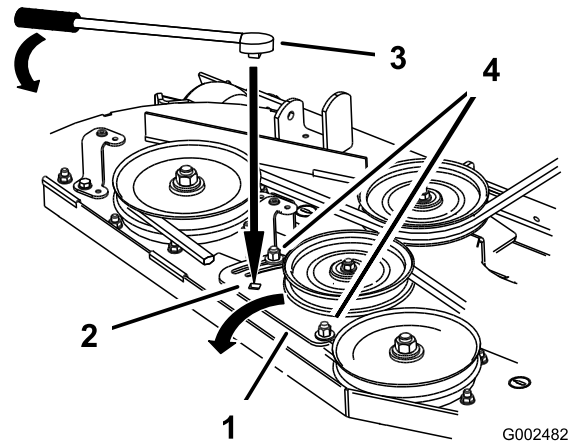

Figure 57
5. If adjustment is required, loosen the idler plate to adjust it (Figure 57).
6. Insert a ratchet or breaker bar into the square hole in the idler plate to adjust the tension (Figure 57).
7. To increase belt tension, rotate the ratchet or breaker bar to move the fixed idler until you feel increased resistance and the spring-loaded idler pulley stops moving (Figure 57).
8. While holding the belt tension, tighten the idler plate bolts that secure the idler plate (Figure 57).
10. Adjust the belt tension and the idler plate, if necessary, and tighten all hardware securely (Figure 57).